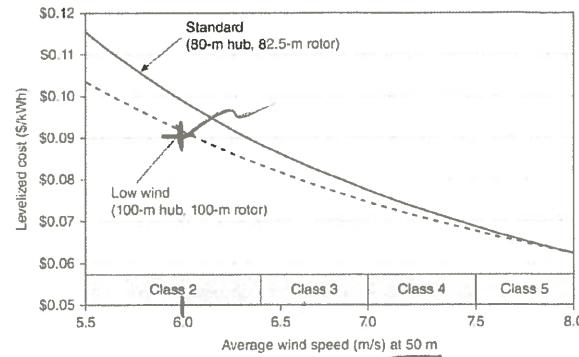

Fig. 7.48
b. Assuming a nominal 9% financing charge with a 20-year term along with annual O&M costs of \$60/kW, find the leveledized cost of electricity. Does it agree with Figure 7.48?
THIS LCOE DOES AGREE w/ FIG 7.48 ( $C = 6 \text{ m/s}, 50 \text{ m}$ )